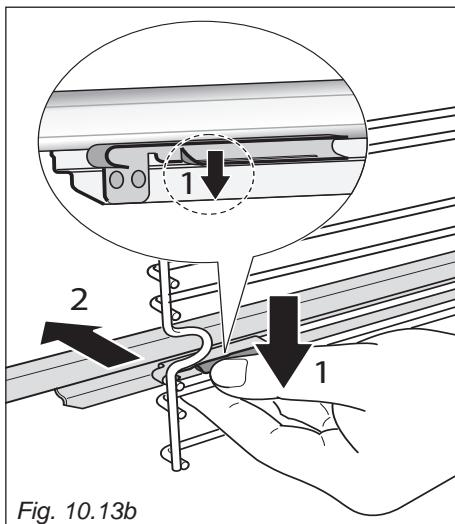

Fig. 10.13b
- Find the safety locks. These are the tabs that clip over the wire of the side rack (arrow "1" in fig. 10.13b).
- Pull the safety locks away from the wire to release the wire (arrow "2" in fig. 10.13b).